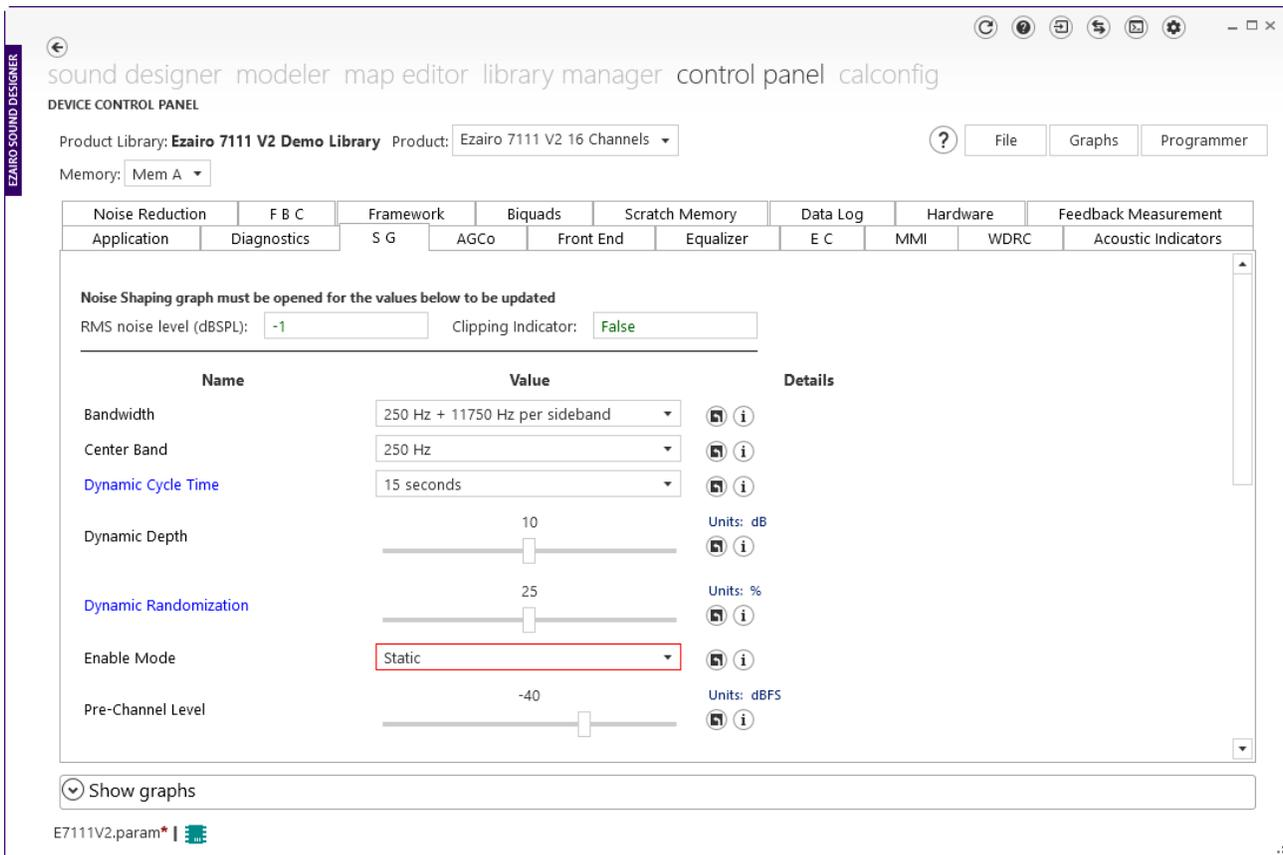

Figure 12. Enabling the Sound Generator
4. Enable the sound generator by selecting **Static** from the drop-down menu for the **Enable Mode** parameter. The Control Panel screen needs to look like the figure "Enabling the Sound Generator" (Figure 12).